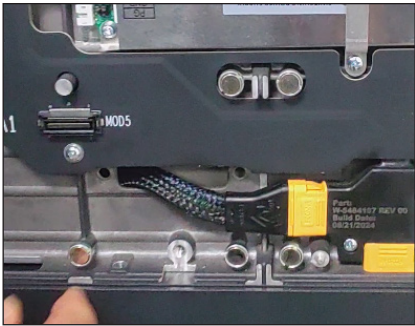

Figure 20: Install Power Input Cable
- b. Install the power input cable through the rear of the panel and plug in the cable. Refer to **Figure 20**.